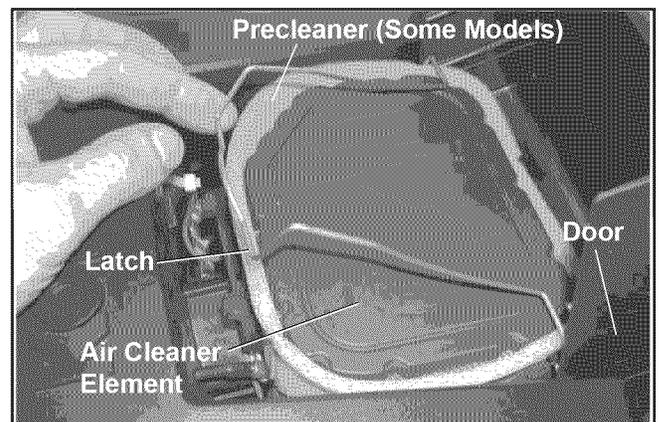

Figure 12. Unhooking Latch (Courage).
2. Unhook the latch and remove the precleaner from the air cleaner element, or remove as an assembly for servicing. Make sure the base and the sealing area is clean before reassembly is performed. See Figures 12 and 13.
2. Unhook the latch and remove the air cleaner element and precleaner (if equipped). See Figure 12 and 13.